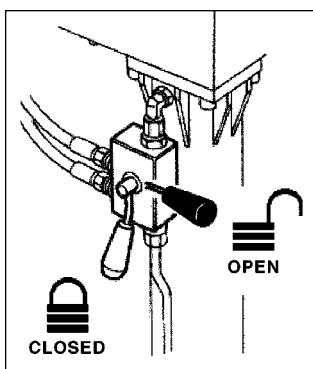

fig. 17
- Open all the taps of the valves placed on the outrigger rams (fig. 17).